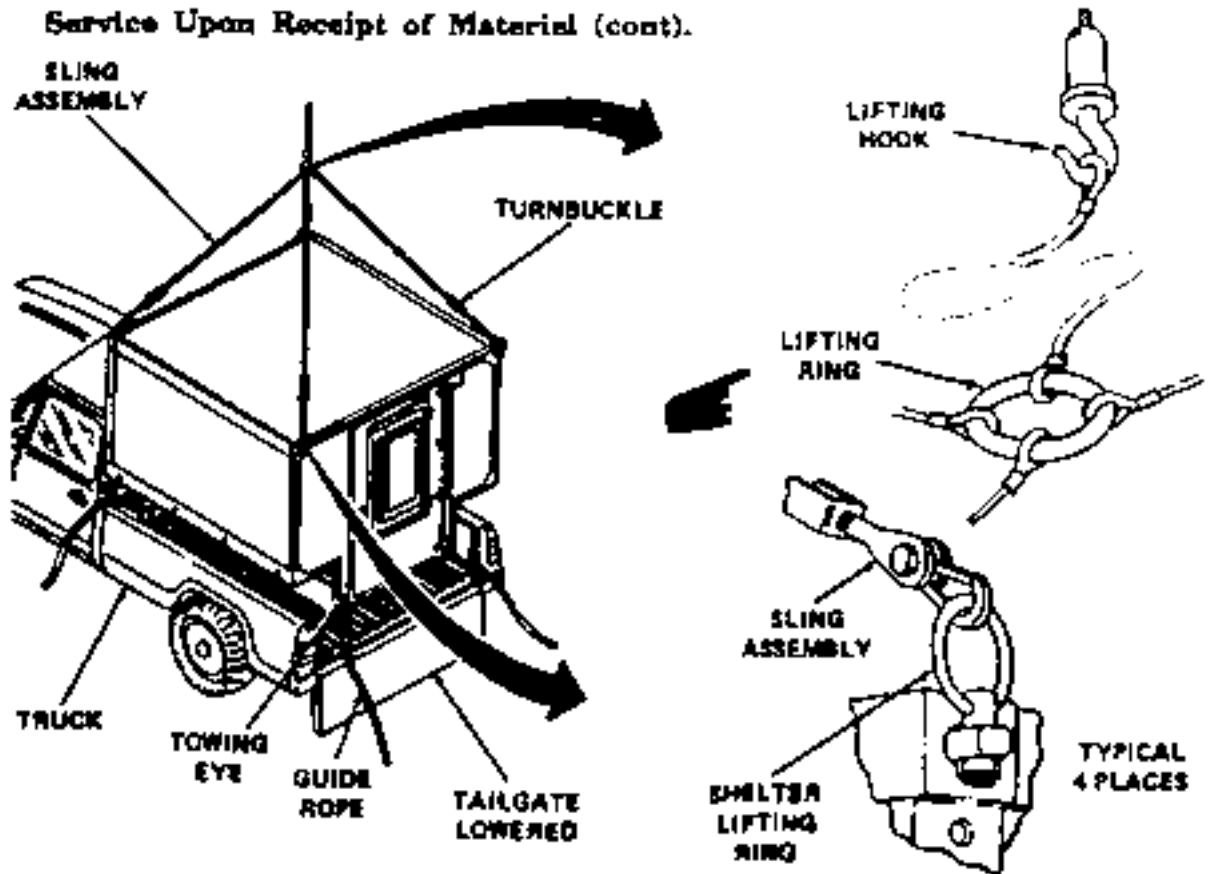

Figure 3-1. Lifting and Loading Shelter
a. Lifting Shelter. (Figure 3-1)
- (1) Attach sling assembly to all four lifting rings on shelter so that turnbuckle ends of cables are next to lifting rings. Be sure to use correct sling assembly. (See Appendix C.)
- (2) Place sling assembly on top of shelter.
- (3) Insert lifting hook of lifting device (crane) into lifting ring.
- (4) Tie a 1/2-inch rope, at least 15 feet long, to each rear towing eye.
- (5) Slowly lift shelter with crane.
b. Loading Shelter onto Truck. (Figure 3-1)